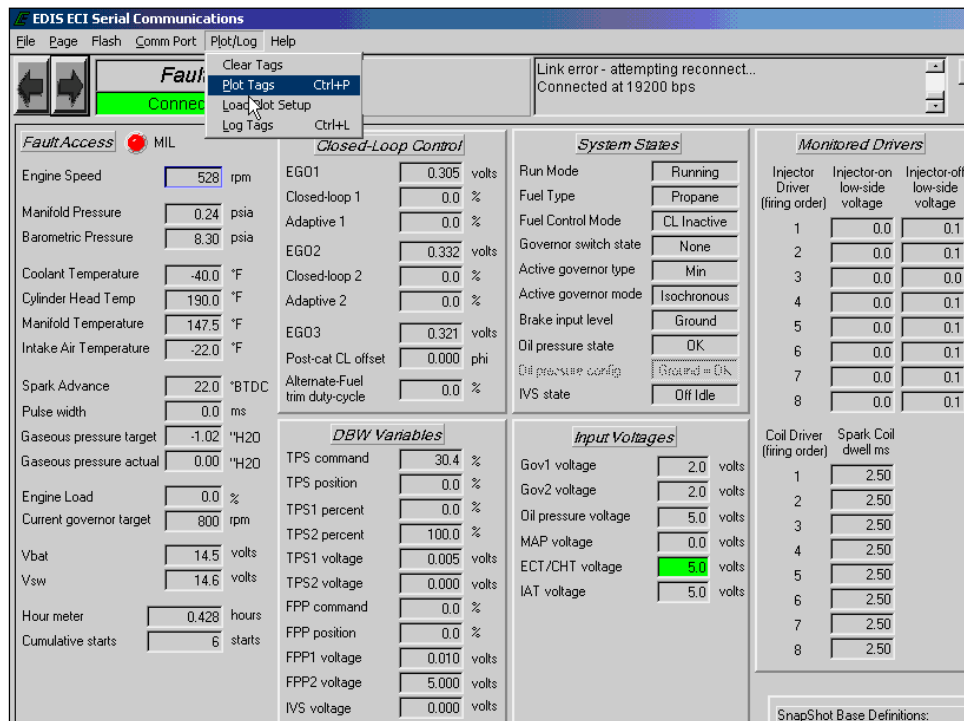

Figure 6
Once the variables have been tagged as highlighted by the green color fill, select the “Plot/Log” function in the top menu bar as shown below in figure 6.
Another data capture function incorporated in the software is the DST logger. This tool serves as a PC data logger for any variable available in the ECM through the interface software. Figure 9 shows the interface display for configuring the DST Log. The interface allows the user to create the filename, set the sample rate for acquisition, set the time interval for sampling, and display the progress of acquisition. A maximum of twenty (20) variables may be tagged for the log. The amount of data stored is only limited by available PC RAM. The resulting text file may then be viewed by any standard Windows text editor/reader program. To create a log file select the “Log Tags” in the drop down menu as shown in figure 6.